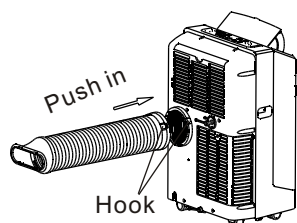
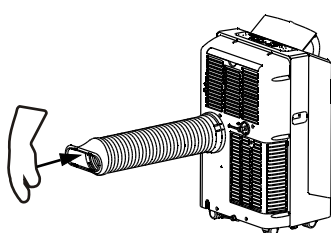

Fig. 19
Fig. 20
2. Place the Exhaust hose over against the air outlet opening hook(See Fig. 19) and flat the other end(See Fig. 20) for quick installation.